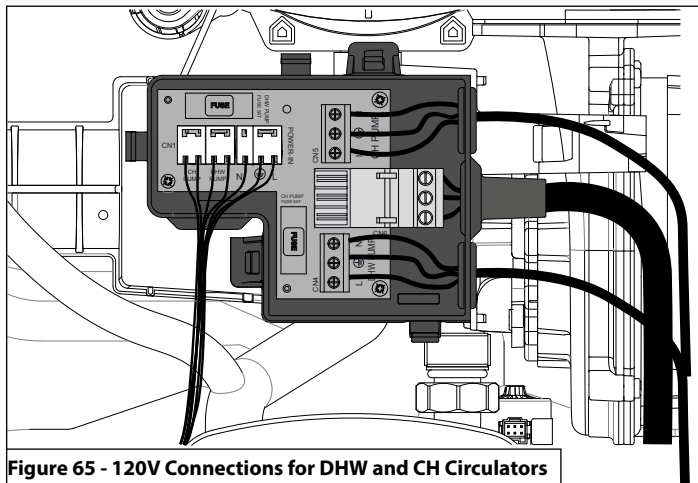

Figure 65 - 120V Connections for DHW and CH Circulators
6. Connect the cable on the connector CN4 (DHW pump) and CN5 (CH pump). See Electrical Wiring Diagram, Figure 65.